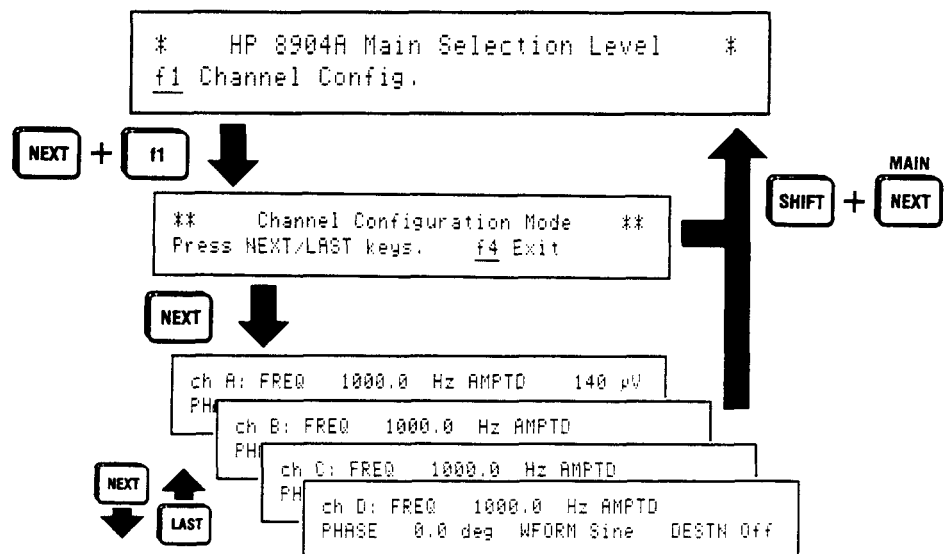

Figure 2-1. All Four Channels Can Be Accessed After You Have Pressed the **f1 Channel Config.** Softkey.
7. Continue pressing the **NEXT** key to step through the **Configuration displays for Channels B, C and D**. These are the four channels provided by Option 01. Figure 2-1 shows how to access the four channels.